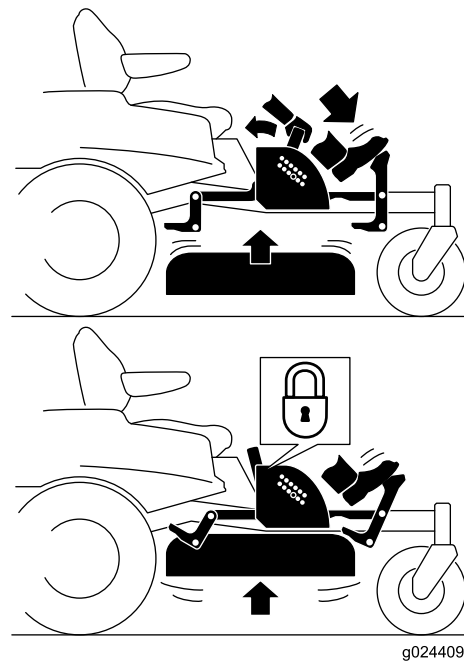

Figure 26
- Press the deck-lift pedal down to raise the deck; continue to press the pedal until the deck locks in the transport position (Figure 26).
- Push on the deck-lift pedal with your foot and pull the transport lock handle rearward to disengage the transport lock (Figure 26).
4. Push on the deck-lift pedal with your foot and pull the handle rearward to disengage the transport lock (Figure 26).